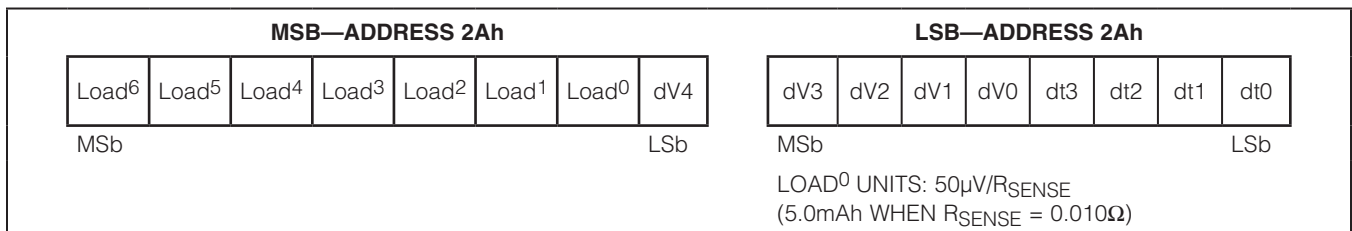
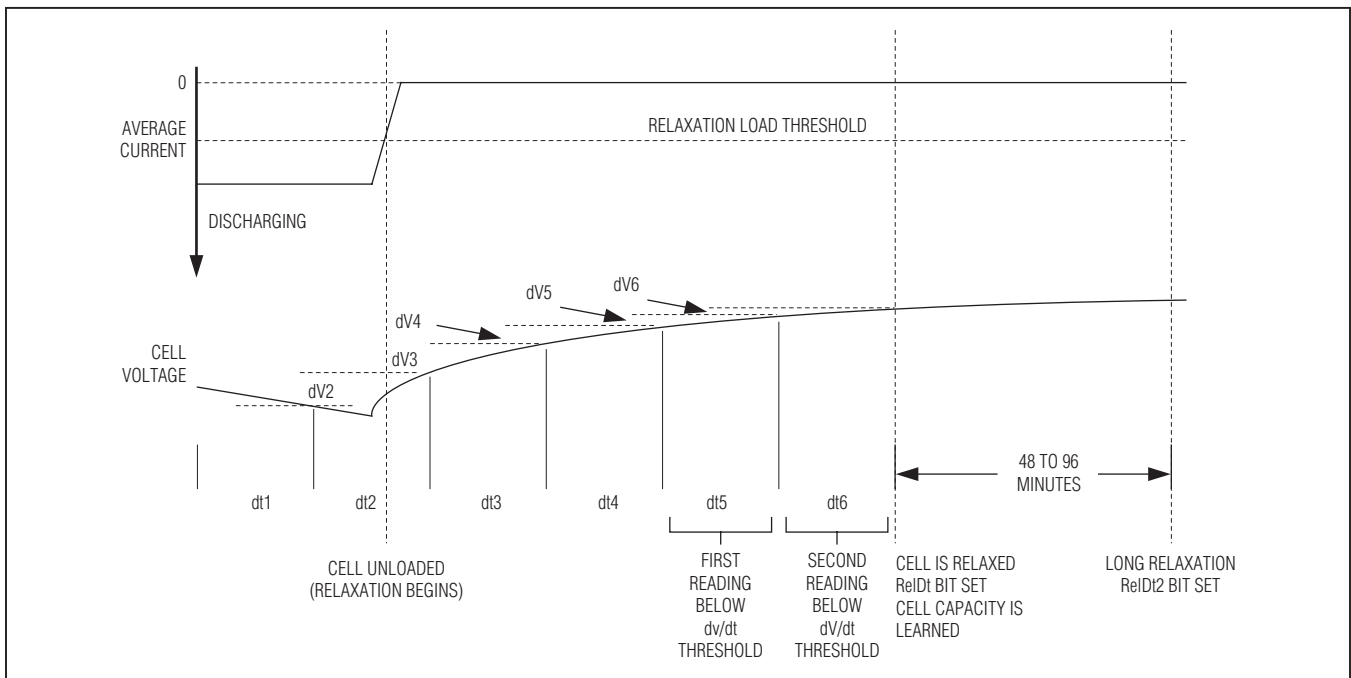

Figure 31. RelaxCFG Register Format (Input)
Figure 32. Cell Relaxation Detection
The RelaxCFG register defines how the device detects if the cell is in a relaxed state. See Figure 32. For a cell to be considered relaxed, current flow through the cell must be kept at a minimum while the change in the cell's voltage over time, dV/dt, shows little or no change. If AverageCurrent remains below the Load threshold while VCELL changes less than the dV threshold over two consecutive periods of dt, the cell is considered relaxed. Figure 31 shows the RelaxCFG register format:
**RelDt**—Relaxed cell detection. This bit is set to a 1 whenever the ModelGauge m3 algorithm detects that the cell is in a fully relaxed state. This bit is cleared to 0 whenever a current greater than the Load threshold is detected. See Figure 32.
**ReIDt2**—Long Relaxation. This bit is set to a 1 whenever the ModelGauge m3 algorithm detects that the cell has been relaxed for a period of 48 to 96 minutes or longer. This bit is cleared to 0 whenever the cell is no longer in a relaxed state. See Figure 32.